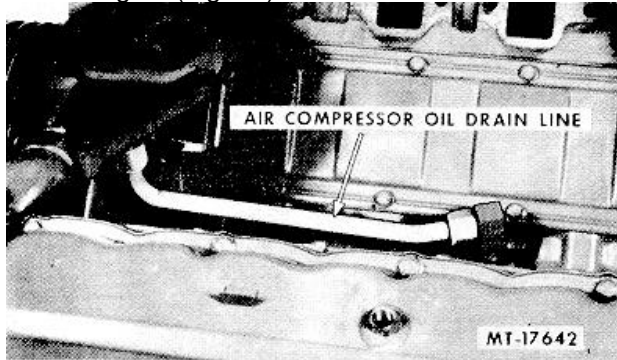

Fig. 24 Removing Air Compressor Oil Drain Line
22. Remove air compressor oil drain line from "V" of engine (Fig. 24).